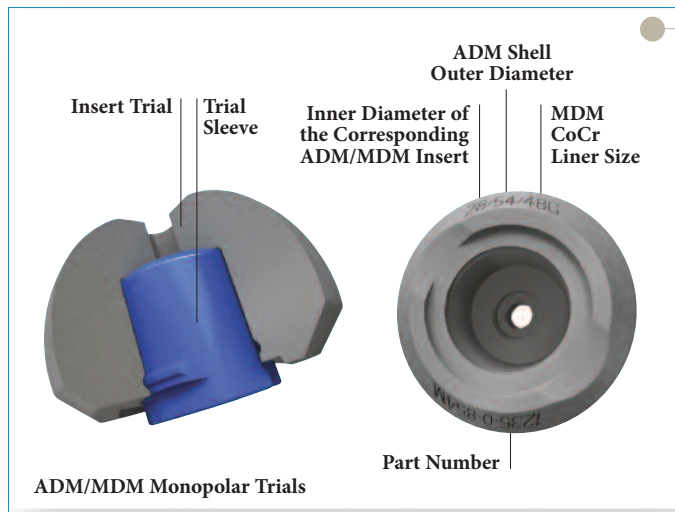

Figure 13b
- ▶ If using the ADM/MDM Monopolar Trials, choose the Trial Sleeve that corresponds to the desired femoral head taper and offset and assemble it into the appropriate Insert Trial by firmly pushing the sleeve into the inner geometry of the Insert Trial (Figure 13b, Tables 1-3). Correct assembly of the Trial Sleeve and Insert Trials will produce an audible click. The size of the Insert Trial will correspond with the cup being implanted (Table 1).